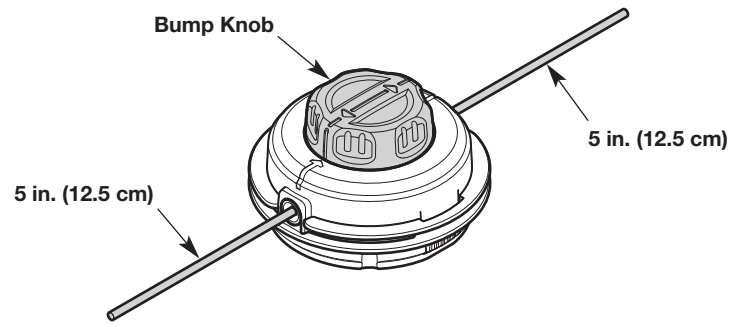

Fig. 24
- Turn the bump knob to wind the line until about 5 inches (12.5 cm) protrude from each side of the cutting head (Fig. 24).